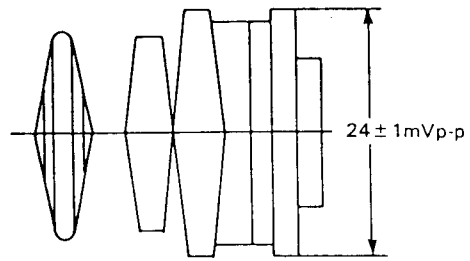

Figure 2-8.
- c) Adjust R518 (recording chroma control) to that the red level be  $24 \pm 1mVp-p$  as shown in Fig.2-8.